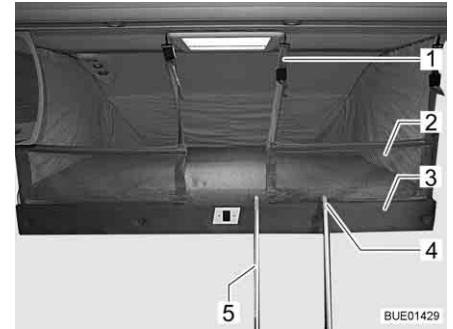

Fig. 103 Pull-down bed complete with applied safety net
If fitted, the safety net (Fig. 103,2) and the retaining belts are located beneath the mattress of the pull-down bed. Only use the safety net if persons are already in the pull-down bed.
- Attach retaining belts (Fig. 103,1) to the hooks on the ceiling.
- Hook step ladder (Fig. 103,5) to the pull-down bed by attaching the two hooks (Fig. 103,4) in the holding bar (Fig. 103,3).